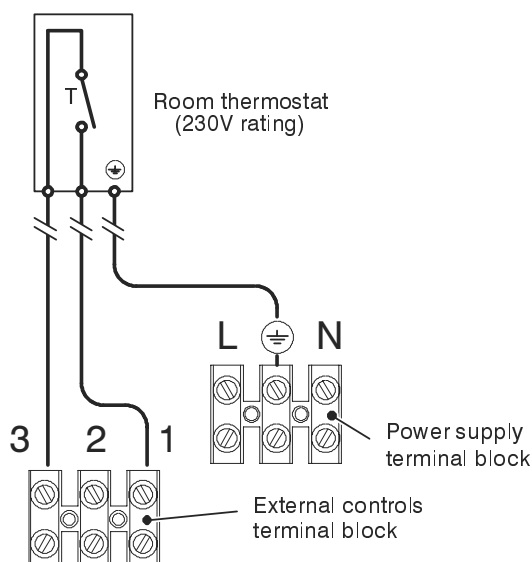
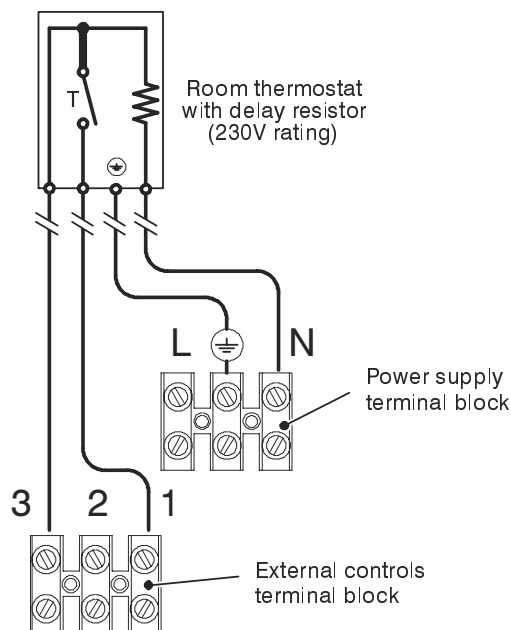

Fig. 6.12
Fig. 6.13
- 8 Connect the room thermostat between terminals 1 and 3 as shown in Fig. 6.12 or Fig. 6.13.